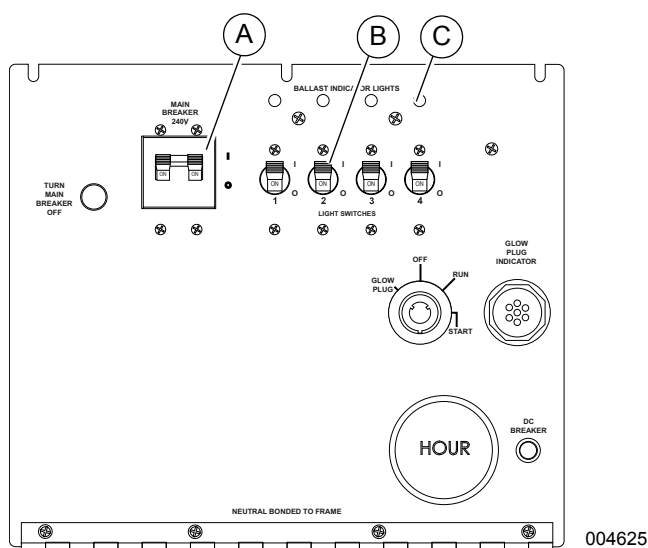

Figure 3-8. Light Switches and Breaker
- See Figure 3-8. Switch the main circuit breaker (A) ON (I).
- Switch the individual circuit breakers for the lights (B) ON (I), one at a time.
- The ballast indicator lights (C) will turn on and continue to get brighter as the lights warm up, and then remain on. This confirms power is coming from the ballasts to the lights.